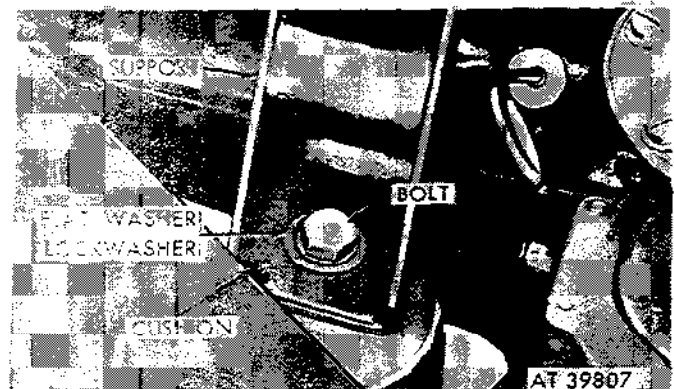

Figure 2-56. Right front bracket mounting bolt and washers.
(5) Remove right front support mounting bolt and washers (fig. 2-56).
(6) Using suitable jack or hoist, raise engine approximately one inch to gain clearance for removal of rubber cushions.
(7) Remove mounting cushions.
b. Installation. Complete operations (7) back to (1) and refer to appropriate illustrations as indicated in *a* above.